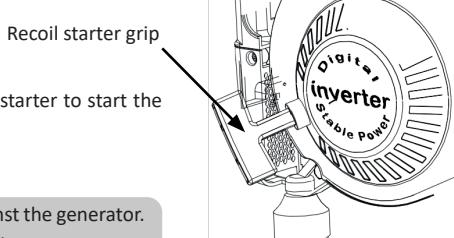

Fig. 8
**Starting system (Fig. 8)**
4. Pull the recoil starter slowly until it engages, then pull it briskly. (Fig. 8)